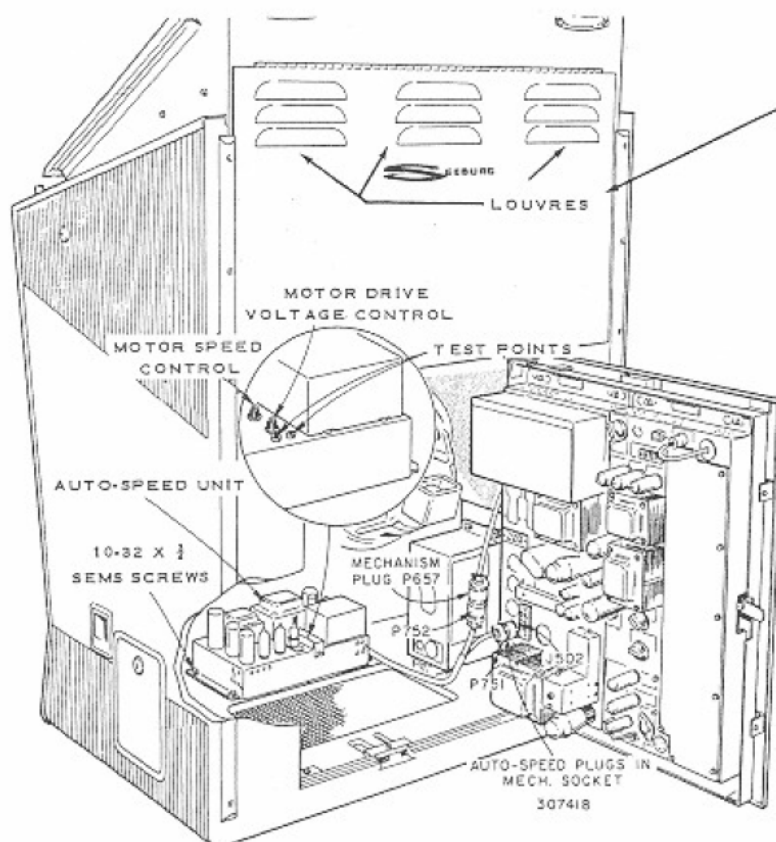

Figure 1. Auto-Speed Unit Installed
1. Position the Auto-Speed Unit on the floor of the phonograph (Figure 1) and secure in position using four 10-32 x 3/4 inch Sems screws provided.